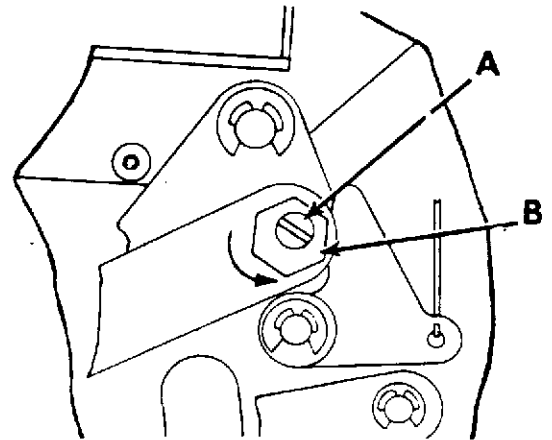

FIG. 7
- B) To adjust, loosen screw (A) Fig. 7. Rotate excentric (B) counterclockwise approximately 1/4 turn. Secure screw (A).